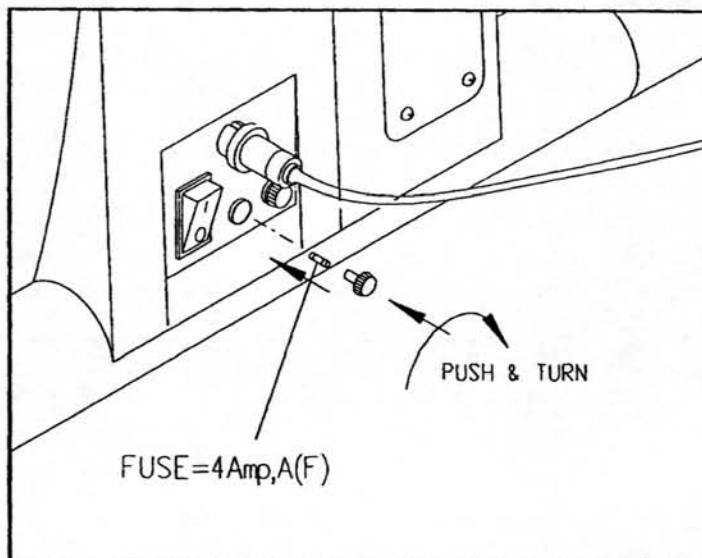

Fig.7-2
2. Remove the damaged fuse and insert a new one. Push the fuse holder with fuse in, turning clockwise to secure it (see fig. 7-2).